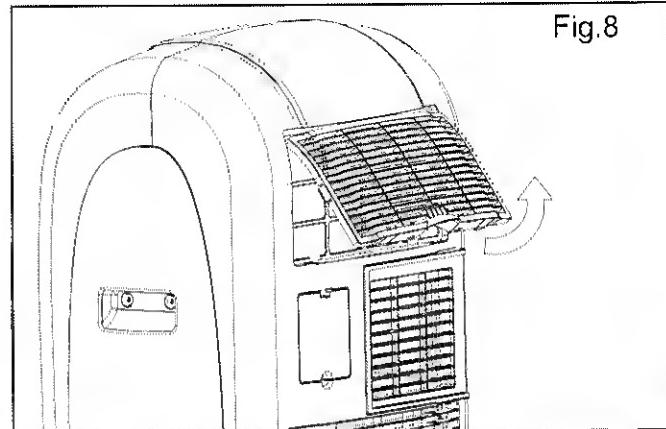

Fig.8
- 1) To remove the air filter: Pull the air filter cover upward in the direction of the arrow Fig 8 and remove the air filter.